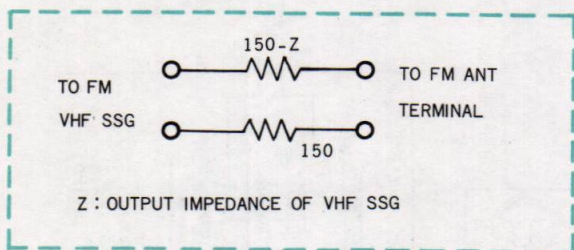

Fig. 3-5 Dummy antenna
2. Dummy antenna See Fig. 3-5.
5. Dummy antenna (See Fig. 3-5.)